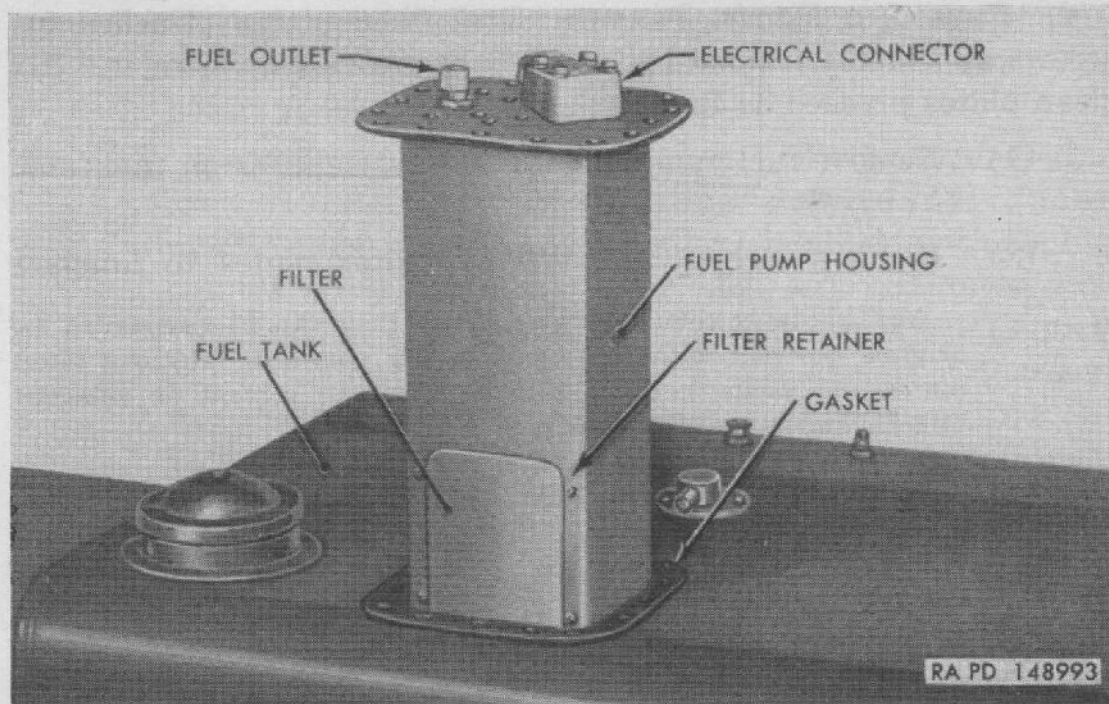

Figure 61. Removing fuel pump assembly.
b. REMOVAL (fig. 61).
- (1) Be sure ignition switch is turned off. Remove connector-to-hanger screw to which ground cable is attached. Disconnect electrical cable from connector and tape end of cable.
- (2) Disconnect fuel line from fuel outlet fitting.
- (3) Remove 18 hanger-to-fuel tank cap screws and lock washers. Note location of wiring harness clip, attached by one cap screw.
- (4) Lift fuel pump hanger assembly out of fuel tank (fig. 61) and remove gasket.
c. INSTALLATION (fig. 61).
- (1) Place new gasket at opening in fuel tank, then lower fuel pump and hanger assembly through opening in tank. Pilot in bottom of tank locates lower end of hanger.
- (2) Install cap screws and lock washers which hold hanger to fuel tank. Place wiring harness clip on cap screw in original location (b (3) above).
- (3) Connect fuel line to fuel outlet fitting on fuel pump hanger. Connect electrical cable at connector. Remove one connector-to-hanger screw and attach ground cable with same.